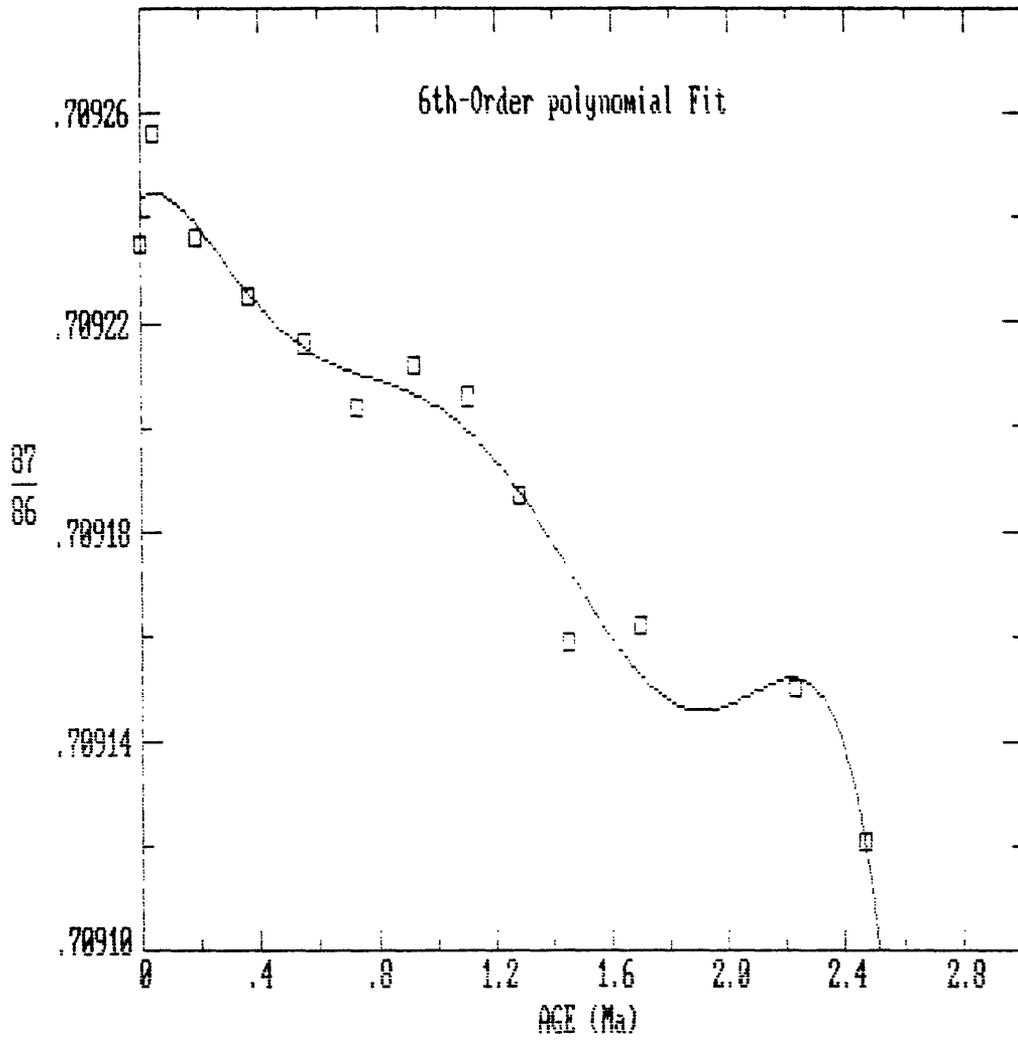

fig. 1
- Figure 1: Example of X-Y plot with polynomial regression curve to the data points (boxes).